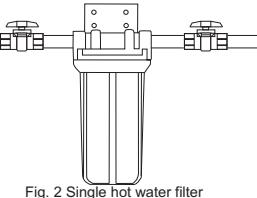

Fig. 2 Single hot water filter in-line installation
- Install water shut off valve before and after the filter water inlet (Fig. 2).